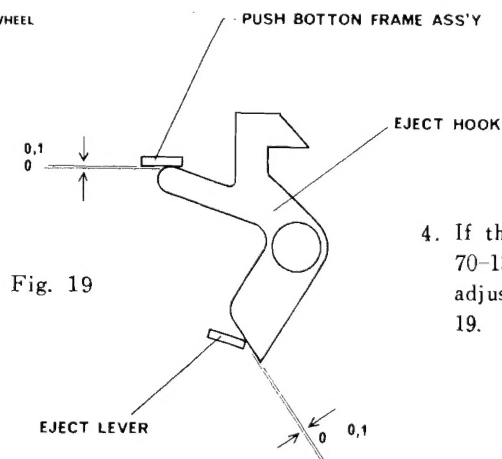

Fig. 19
4. If the torque cannot be adjusted to 70-130gcm during Rewind operation, adjust the spring as shown in Fig. 19.